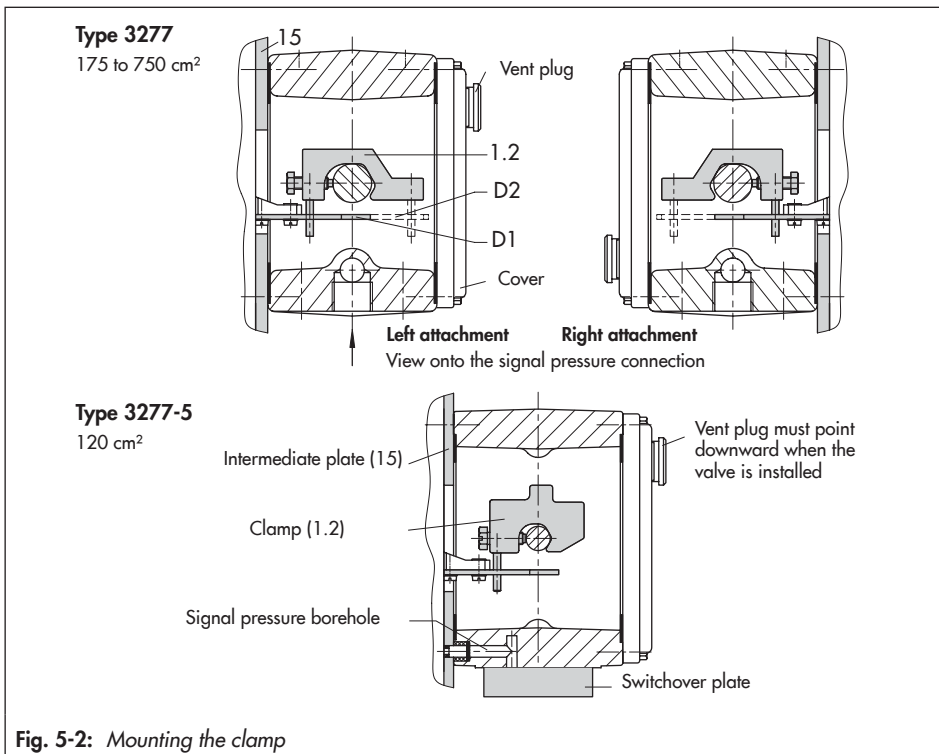

Fig. 5-2: Mounting the clamp
- See Fig. 5-2
The signal pressure is transmitted to the diaphragm chamber over the switchover plate (Fig. 5-1 and Fig. 5-2, bottom).